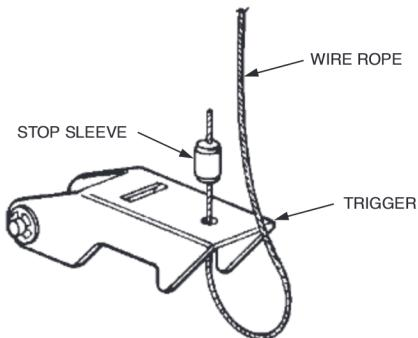

FIGURE 62
- 11. Remove side cover on gas valve and thread end of wire rope through hole in cocking lever. Slide stop sleeve (Part No. 26317) on to wire rope and crimp. (Use the National Telephone Supply Company Nicopress Sleeve Tool Stock No. 51-C-887 or equal to properly crimp stop sleeve.) Make certain crimp is on top of trigger, with wire rope curled under lever. See Figure 62.